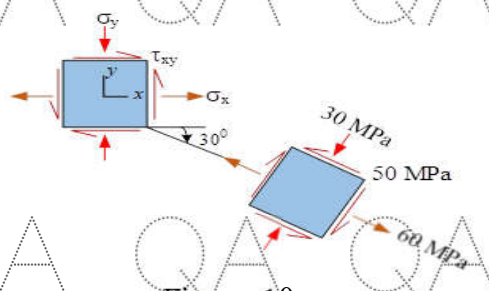

Figure. 10
11. The stresses shown in Figure.10 act at a point on the free surface structural component. Determine the normal stresses σ_x and σ_y the τ_{xy} shear stress at the point. [10]